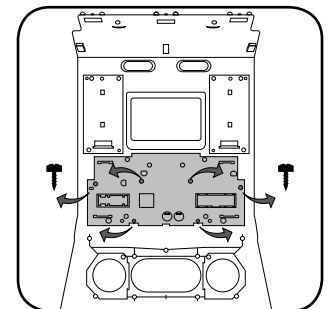

Fig. 6.0
6. Remove T10 screws from the controller board, the middle circuit board on the bezel. Remove the middle circuit board and set aside. The rubber buttons will not be used for this installation; set them aside to be saved with the OEM parts. (Fig. 6.0)